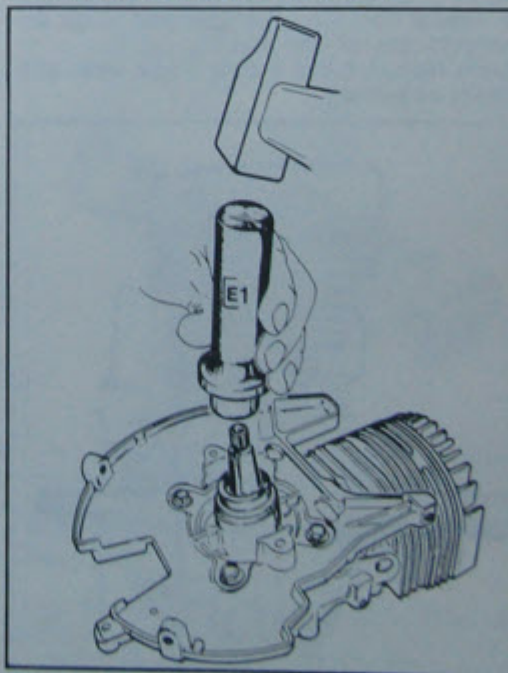

Fig. 37 Fitting oil seal flywheel side
- Place the oil seal in position ensuring that same is not damaged by the keyway slot (see Fig. 37).